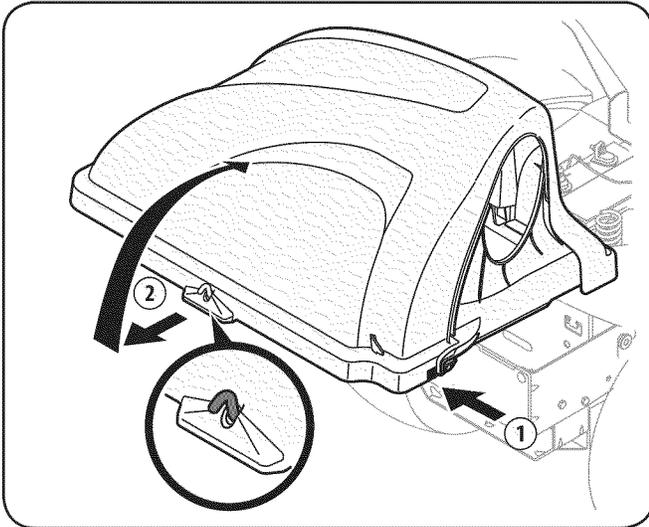

Figure 5-1
2. Open the grass catcher hood by pushing in on the rear, right-side tab with your right hand, as seen in 1 of Fig. 5-1, and lifting the cover with your left hand in the center rear of the bagger cover, 2.